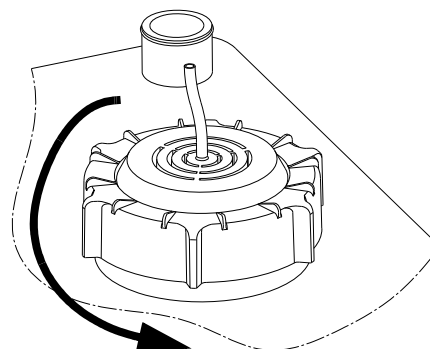

Fig. 15 Removing the pressure tube
2. Loosen the screw cap by turning it counterclockwise. See fig. 15.